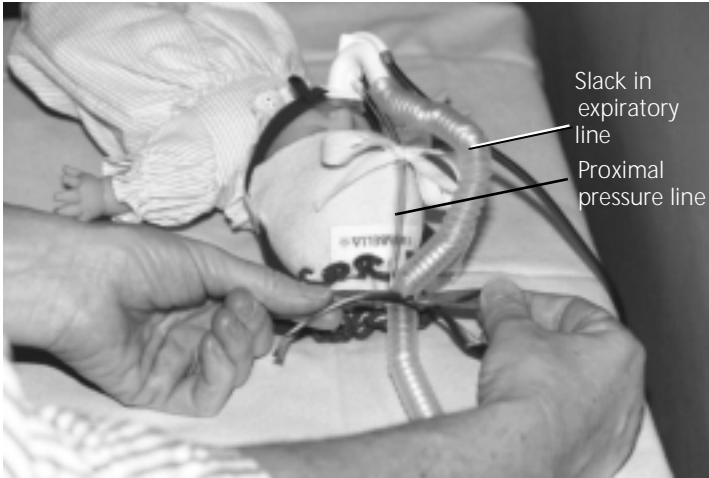

Figure 3-9. Securing tubing with colored tie
7. Secure the extended expiratory limb and the clear proximal pressure line to the back of the Cap with the colored tie. Position the expiratory limb to reduce any pressure on the nose and the septum (Figure 3-9).